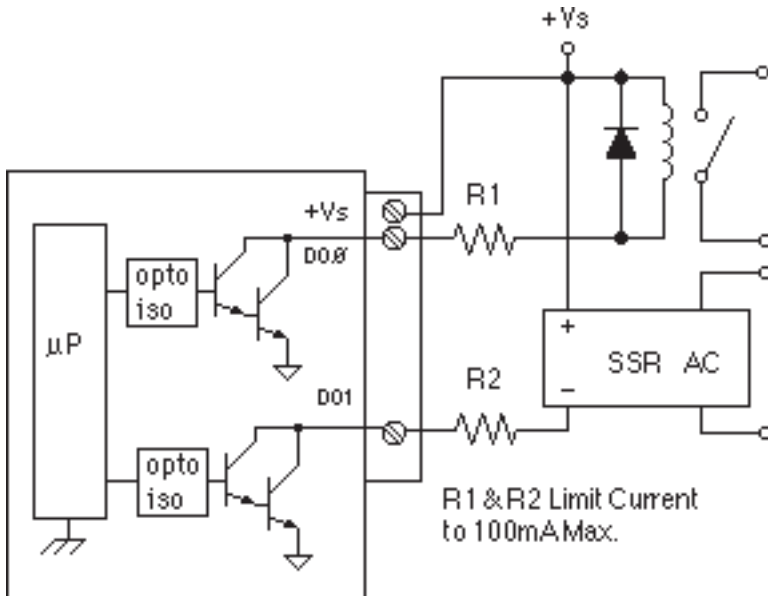
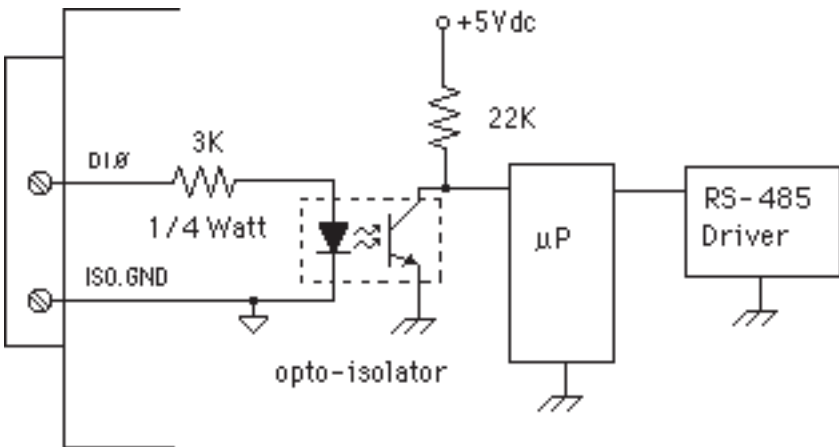

Figure 6.1 Digital Outputs Used With Relays
Figure 6.2 Typical Digital Input Circuit.
A digital output consists of an open-collector transistor controlled by the host, using the Digital Output (DO) command (See Figure 6.1). The open-collector configuration is used to provide maximum versatility in interfacing to solid state relays (SSR's) or to standard logic levels such as TTL or CMOS. Each digital output can sink up to 100mA and can withstand up to 30V. Power in the transistor must be limited to 300mW. The emitter of each transistor is tied to the GND terminal on the input connector.
A typical connection of a digital output is shown in Figure 6.1. In this case, a solid state relay is controlled by the DIN-172 module. The SSR can then be used to control AC power to alarms, heaters, pumps, etc. A typical connection to a logic input is shown in Figure 6.2. In some cases, the common-mode voltage of the GND terminal may be significantly different from the ground potential of the logic input to be interfaced. This may occur when
the module is powered remotely. In this case, an opto-isolator may be used to eliminate the common-mode voltage. See Figure 6.2. In all cases, the current switched by the transistor may not be more than 100mA.
Digital inputs are used to sense switch closures and the state of digital signals. The inputs are protected to voltages up to $\pm 30\text{V}$ and are normally pulled up to the logic "1" condition (see Figure 6.2). Digital inputs can be read by the Digital Input (DI) command. Voltage inputs less than 1V are read back as '0'. Signals greater than 3.5V are read as '1'. No other commands have any affect on the inputs.